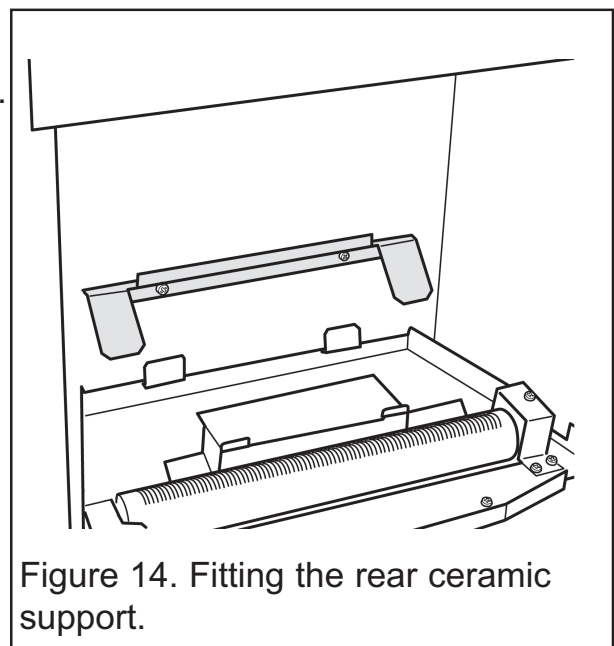

Figure 14. Fitting the rear ceramic support.
5. This appliance is supplied with a rear ceramic support bracket. Fit this using two screws supplied (See figure 14)